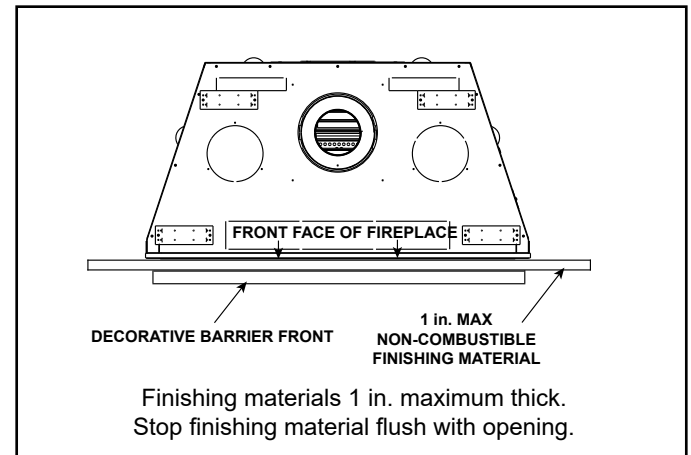

Figure 10.12 Overlap Fit Decorative Barrier Front
- Overlap fit as shown in Figure 10.12. Decorative barrier front is installed on top of finishing material.